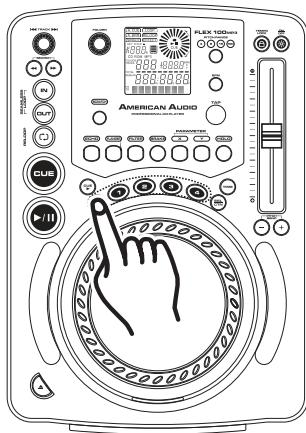

Figure 16
- 1) Create a Cue Point by one of the two means listed on page 18. Press the *MEMORY BUTTON* (17), as in Figure 16. The red Memory Cue LED will glow indicating the store memory function has been activated. You may now press any one of the four *BANK BUTTONS* (13) to store your cue point into memory (Figure 17). After pressing one of the *BANK BUTTONS* (13), the corresponding Bank Button LED will flash briefly. The LED of the *BANK BUTTON* (13) will remain lit indicating a cue point is stored in memory. The red Memory LED will turn off.